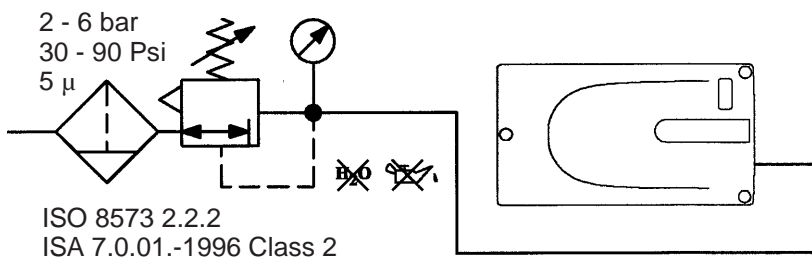

Figure 7
5. Connect the outlet connector (Figure 7) of the positioner with tubing, independent of the action (direct or reverse). On explosion proof housing air connections are marked S,C+ and C-, plug C- port with proper fitting.